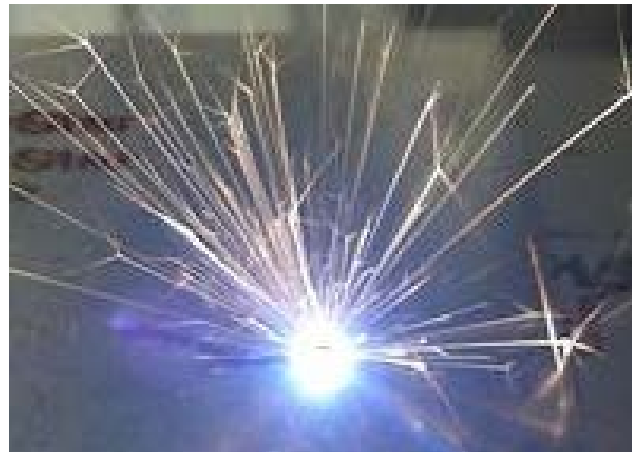

Figure 27
7. Check to make sure the laser beam is in focus (see **Figure 27 on page 58**).